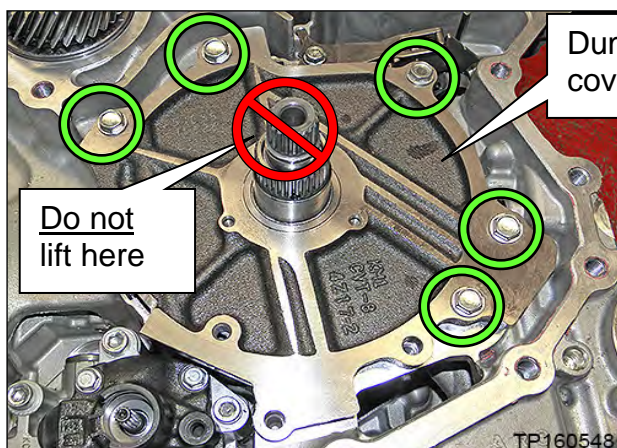

Figure 50
28. Remove the five (5) dummy cover bolts, and then remove the dummy cover. (Figure 50).
- Lift the dummy cover from the sides **ONLY**. Do NOT lift from the input shaft (Figure 50); this can lift the clutch pack out.